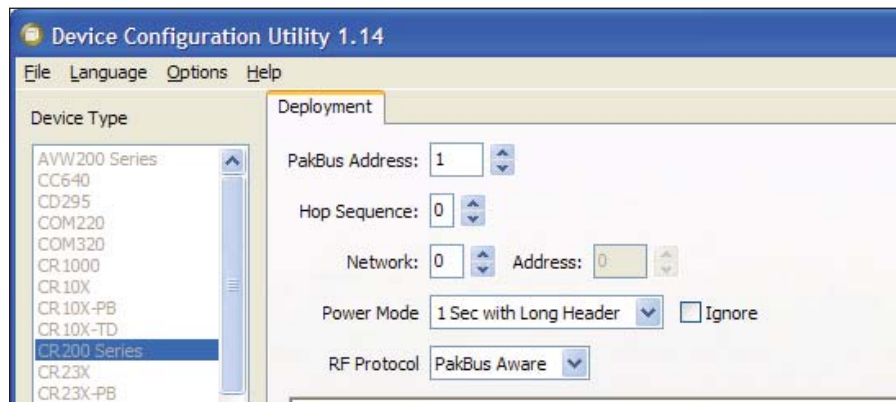

Figure 4. DevConfig Deployment panel showing the CR206(X) setup for Example 1.
CR206(X) Setup for Example 1 (see Figure 4):